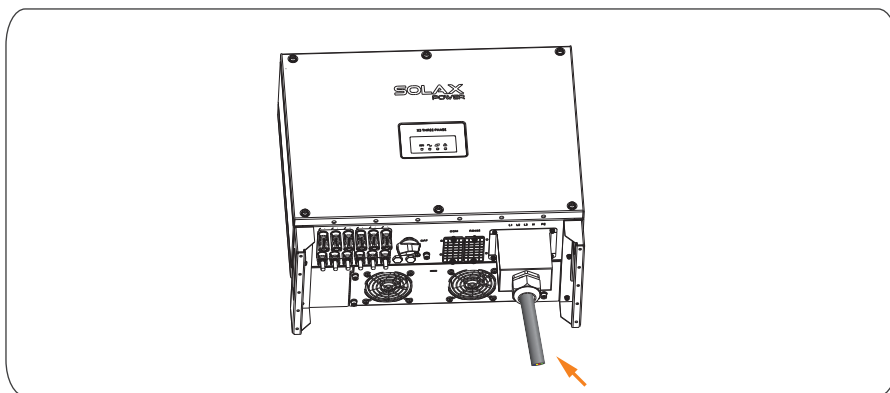

Figure 5.7 Tightening the wiring board
**Step 4** Lock the AC OUTPUT terminal shell back to the original position, Stretch all the lines on the AC end naturally and then tighten the plug, as shown in Figure 5.7.